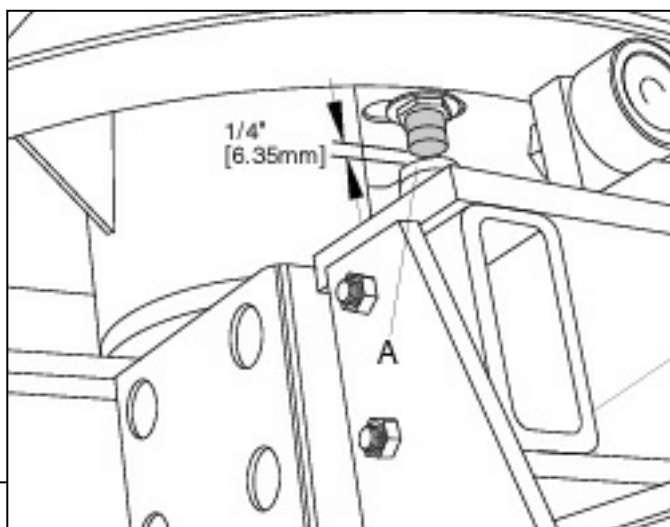

Figure 2.8
4.1.6.4 There is one 180° turn switch at each end of stabilizer, PRS-7 and PRS-8. These proximity switches should be adjusted 1/4" [6.3mm] from actuator (A)(figure 2.8 below). Both these switches are adjustable sideways through slots. Adjust both 180° turns so spade aligns perfectly with Accumulator and rack center line.